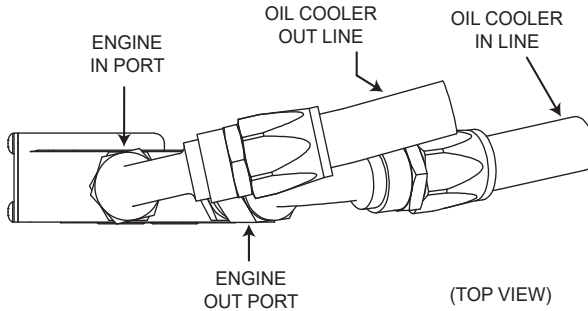

Figure 5 - Oil Cooler Adapter Line Fitting Orientation
5. Orient the 90° hose end fittings as shown in Figure 5 and tighten both hose ends to the oil cooler adapter.